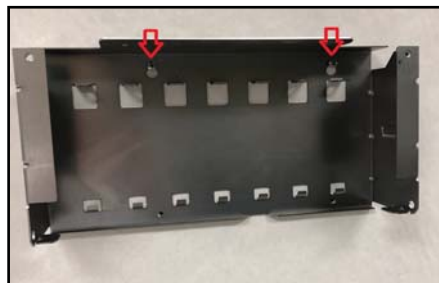

Figure 4a
a) Refer to Figure 4a. Place the 1492 conversion lower mounting plate into the control cabinet at the location previously used by the 1746 I/O chassis. The lower mounting plate mounting hole locations match those of the 1746 I/O chassis. Use the two upper mounting hardware to place the lower mounting plate into position.